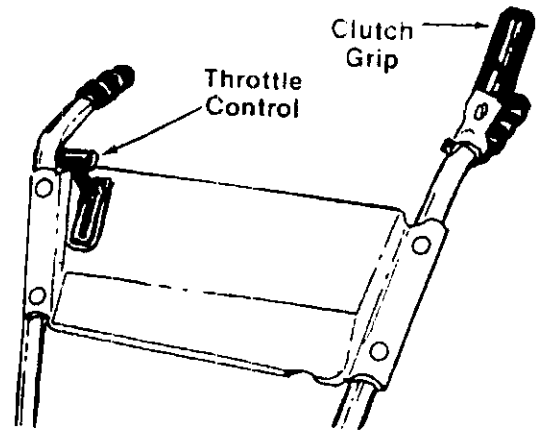

FIGURE 11.
2. Be certain the clutch grip is in the neutral (released) position. See figure 11
4. Move the throttle control lever forward to FAST POSITION. See figure 11.